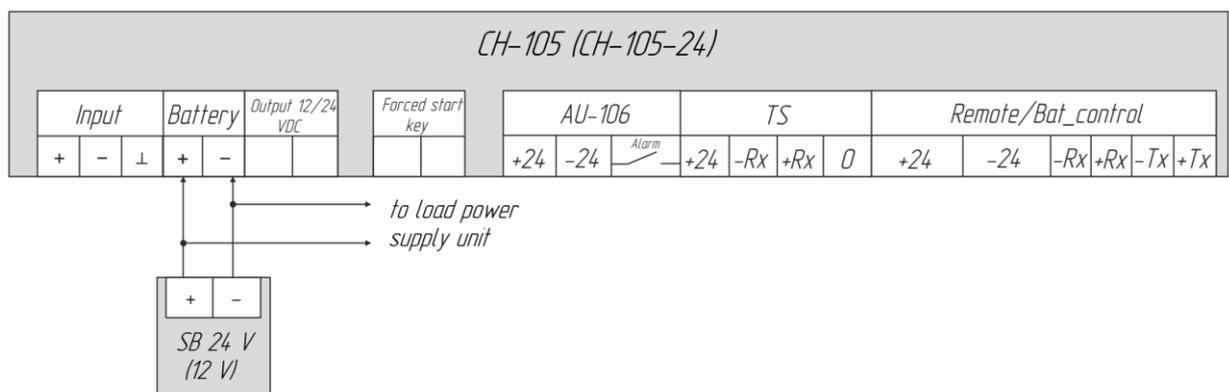

Figure 4 – Diagram of load to SB direct connection
1.3.2.4 Load may have direct and switched connection to SB, see Figures 4–5, respectively.
Set operation modes in the Product menu “Pdd” using “Forced Start Key” terminal depending on the selected load connection type, see Figures 4–5.